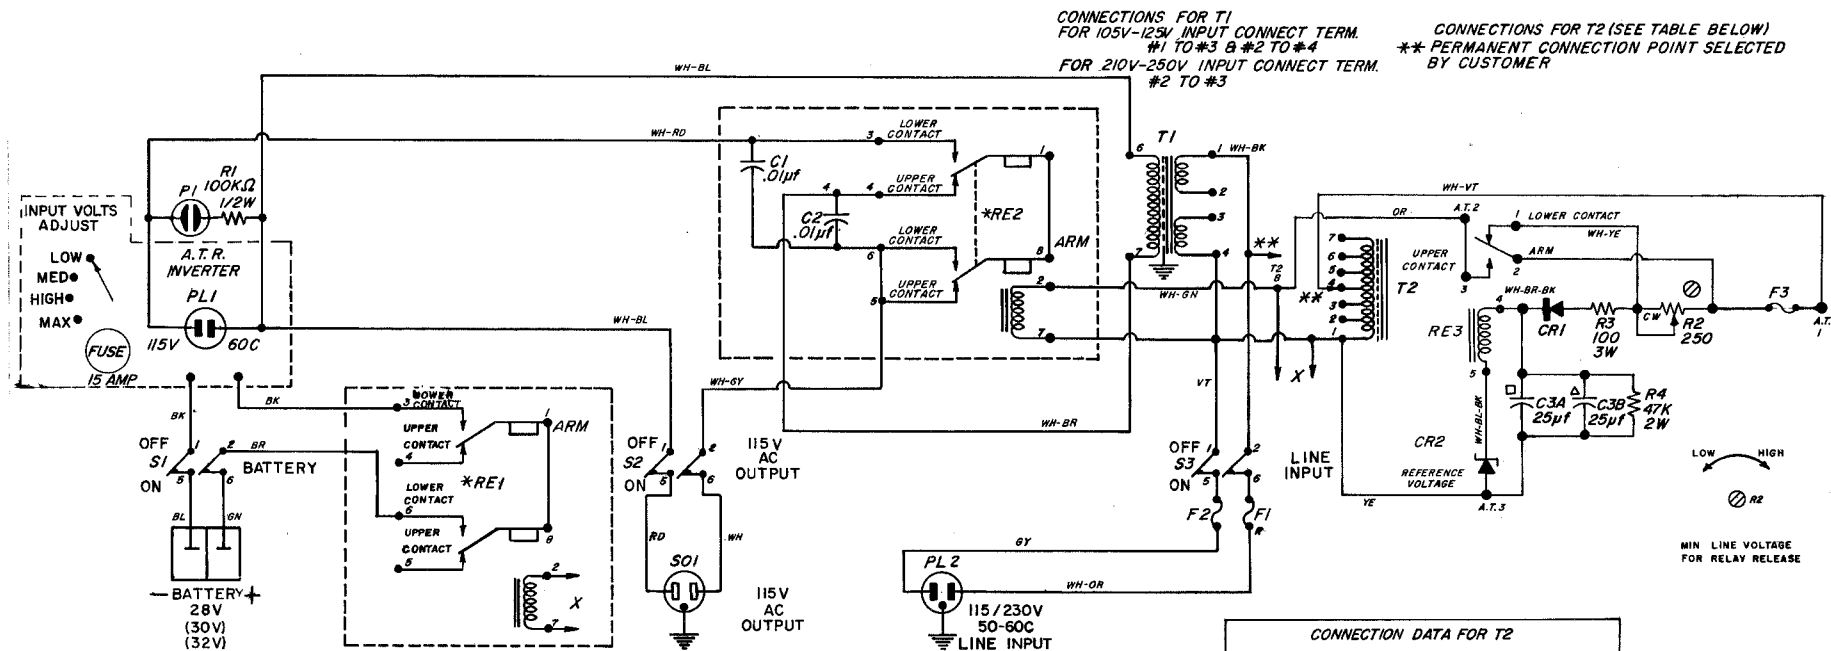

Figure 7. Schematic Diagram, Type 1116-B, Emergency Power Supply.
2.2 OPERATIONAL RANGE. (See Figure 7.)
3.2 TRANSFORMER T1. Make sure that transformer T1 is properly connected for the normal supply voltage. For 105-125 volt input, terminal 1 should be connected to terminal 3, and terminal 2 to terminal 4. For 210-250-volt input, connect terminal 2 to terminal 3 (see Figure 7).
cluded on the circuit diagram given in Figure 7. Since the operating current of RE3 may vary slightly with different units, the choice of tap may be determined as follows: